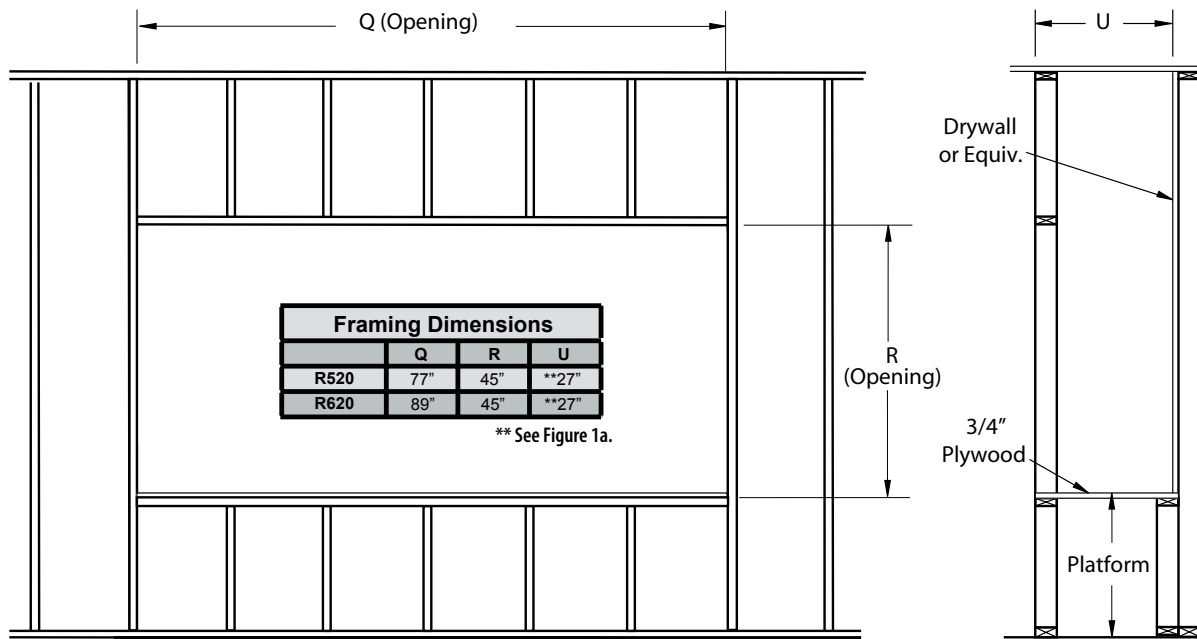

Figure 16. Fireplace installation, *rough-in dimensions*.
Step 1. To ensure your glass viewing area is at the optimum height, follow the example below, *Figure 16*. Example: If you wish to have the bottom edge of the glass to be 24", the top of the platform will be 13". This dimension takes in account the height of the platform, plywood and adequate clearances.